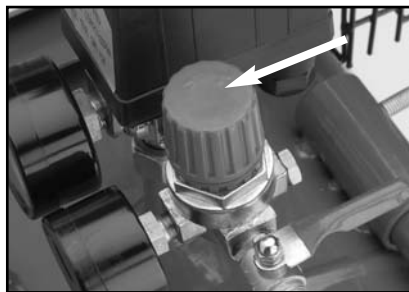

Figure 7. Air control knob.
1. Adjust the air control knob, shown in **Figure 7**, to set the PSI that will be delivered to your tool. Turn the knob clockwise to increase the pressure and counter-clockwise to decrease the pressure.